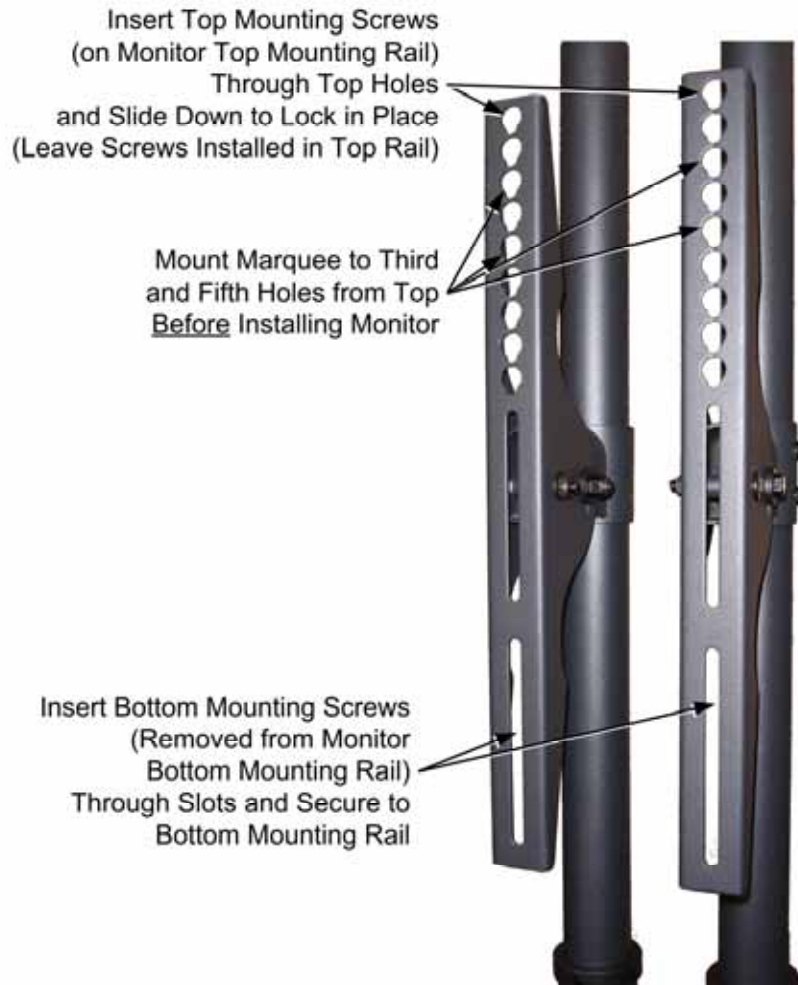

Figure 8. Vertical Rails on Monitor Stand
2. Place the monitor on the stand so the top mounting screws go through the top hole in each of the vertical rails (see Figure 8). They will slide down and lock into place. This puts the monitor at the optimal viewing height. (**Note:** Do not change the height of the tubular supports.)